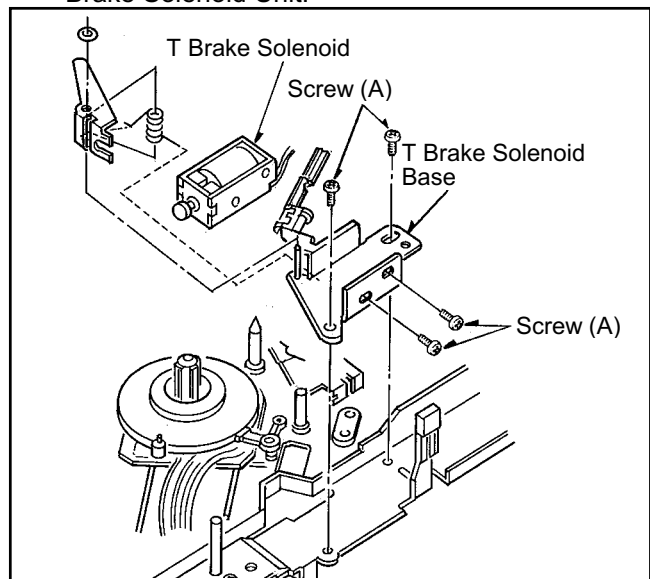

Figure 2-21
2. Unscrew the 2 screws (A) as shown in figure 2-21, and remove the Take-up Brake Solenoid Base Unit.
3. Unscrew the 2 screws (B) as shown in figure 2-21, and remove the Brake Solenoid from the Take-up Brake Solenoid Unit.